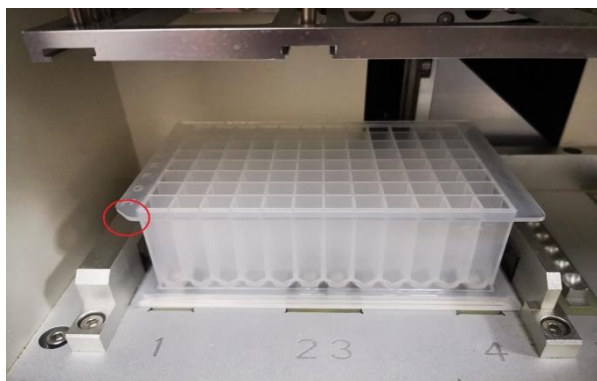
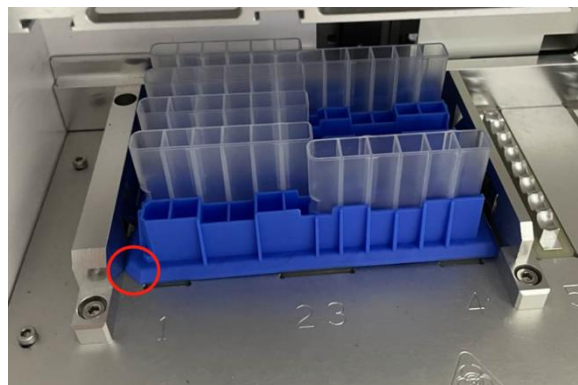

Figure 3. 96-deep well plate
Figure 4. Put the single kit docking into the instrument
**⚠ Note:** As shown in Figure 3 and Figure 4, the user should ensure that the 96-deep well plate and the single kit docking is properly positioned with the notch facing outward.